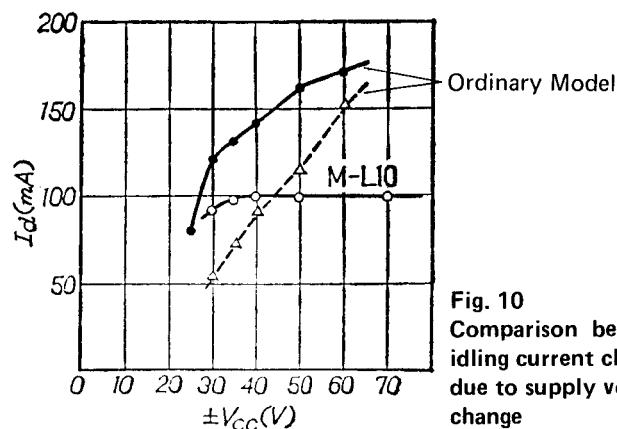

Fig. 10
(3) Desirable stability of idling current
This relates to feature (1). A large change of the supply voltage does not lead to change of the idling current. This is a great feature of stable operating point. When this circuit is compared with an ordinary circuit, it is as shown in Fig. 10. Practically, even when the voltage at the AC primary side drops from 100 % to 50 %, M-L10 operates normally with no change of the distortion rate except that the maximum rated output drops from 160 W to 40 W, thus providing high stability.